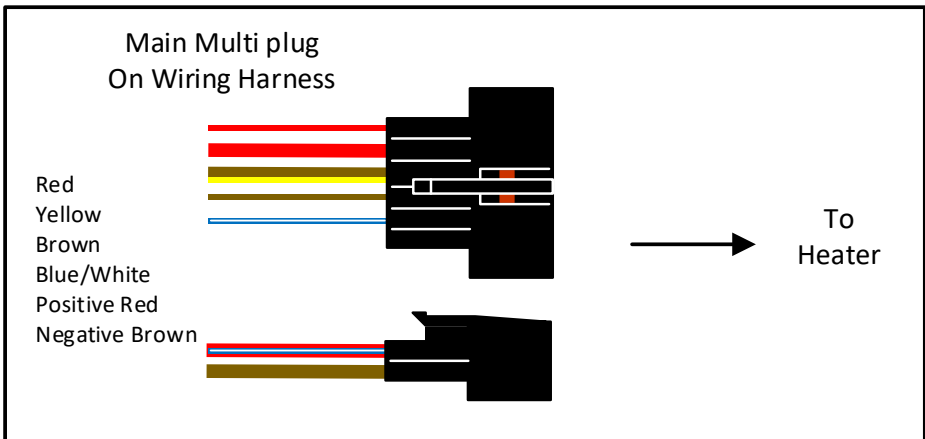

Figure 23
To install the main multi plug into the heater, first remove the ECU cover (figure 5 no. 3) using a small flat bladed screwdriver to allow access to the ECU. Plug the multiplug (figure 23) into the ECU ensuring the tab faces upward and clips into X7 (figure 33) of the ECU. **WARNING:** If inserted incorrectly, the ECU will be destroyed upon initial startup.
- X7: Main wiring harness (see figure 23)